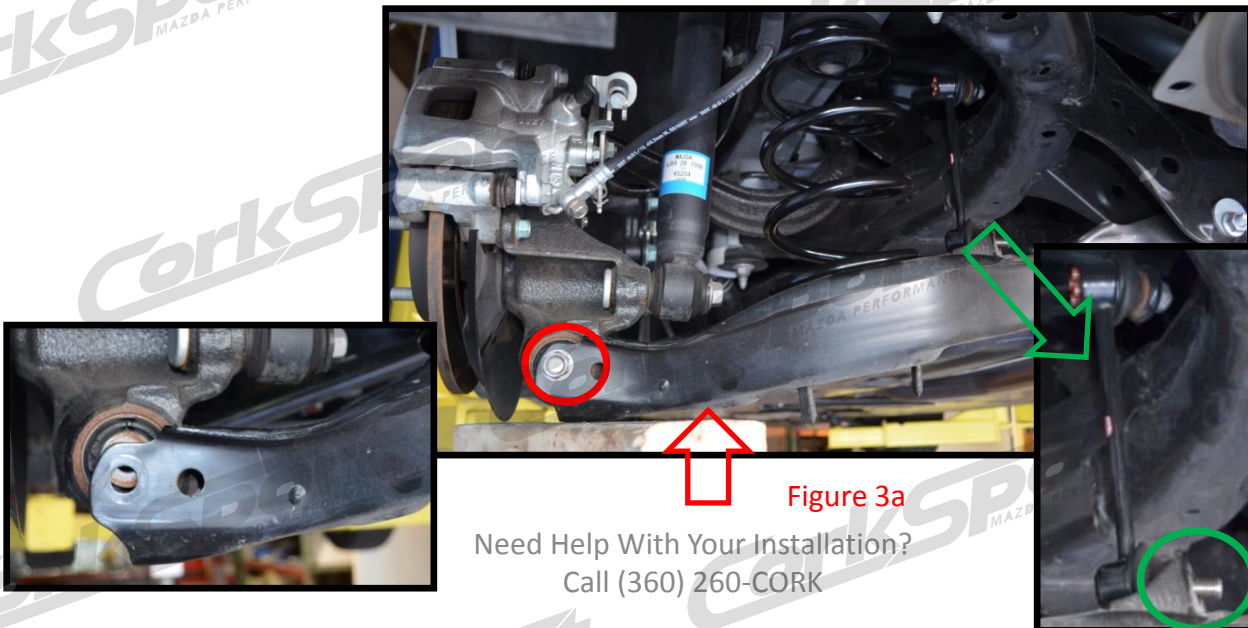

Figure 3a
- b) Place a jack under the rear control arm and jack up the control arm slightly. Shown with **Red Arrow** in **Figure 3a**.
- c) Remove the sway bar end link from the control arm with a 14mm wrench. (**Green Circle** in **Figure 3a**)
- d) Remove the 17mm bolt that holds the spindle to the control arm (**Red circle** in **Figure 3a**).
- j) Lastly re-connect the sway bar end link. (**Green Circle** in **Figure 3a**)
- b) Place a jack under the rear control arm and jack up the control arm slightly. Shown with Red Arrow in Figure 3a.
- c) Remove the sway bar end link from the control arm with a 14mm wrench. (Green Circle in Figure 3a)
- d) Remove the 17mm bolt that holds the spindle to the control arm (Red circle in Figure 3a) using a 17mm socket and ratcheting wrench.
- j) Lastly re-connect the sway bar end link. (Green Circle in Figure 3a)